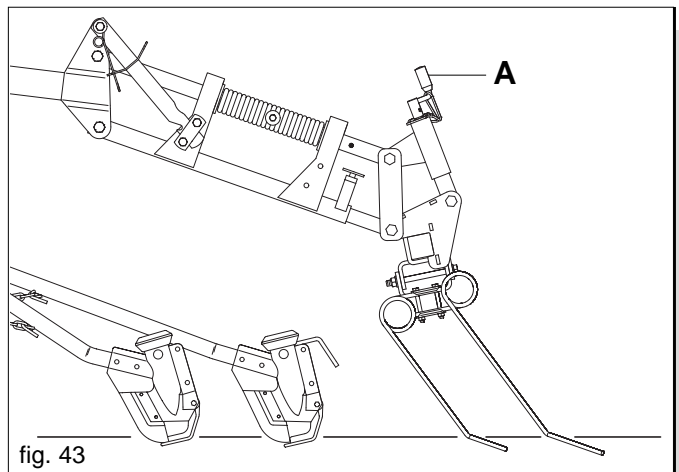

fig. 43
The normal working position of the harrow is shown in Figure 43. In this position, the wear on the teeth, between the long and the short one is even and uniform. By adjusting the regulating handle (A), it is possible to change the angle of the harrow.